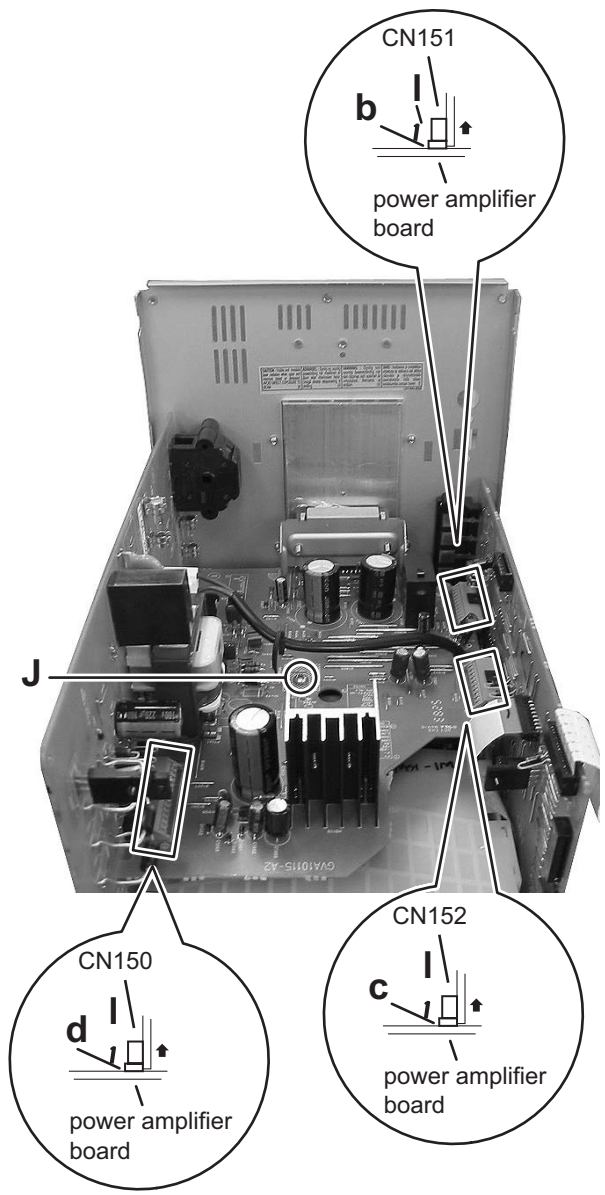

Fig.8
- (3) Disconnect the micon board from the power amplifier board in the direction of the arrow while releasing the claw **b**, **c** of the connectors CN151, CN152 on the power amplifier board. (See Fig.8)
- (2) Remove the one screw **J** attaching the amplifier board. (See Fig.8)
- (3) Disconnect the power amplifier board from the trans board in the direction of the arrow while releasing the claw **d** of the connector CN150 on the power amplifier board. (See Fig.8)